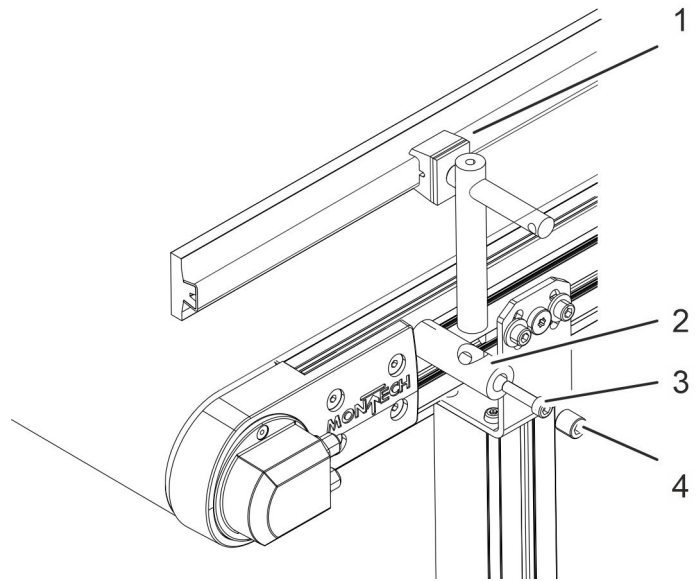

Fig. 23: Installing the variable lateral guide
- 2.** ➔ Remove the grub screw (Fig. 23/4) from the holder (Fig. 23/2).
Fasten the holder (Fig. 23/2) with the cylinder head screw (Fig. 23/3).
- 4.** ➔ Slide the lateral guide holders (Fig. 23/1) into the holders (Fig. 23/2).
- 5.** ➔ Insert and tighten the grub screw (Fig. 23/4).